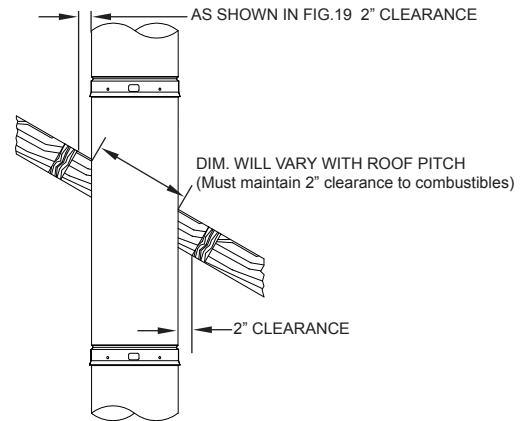

FIG. 18
2. Install the next SP chimney section through the roof. See **FIG. 18**.